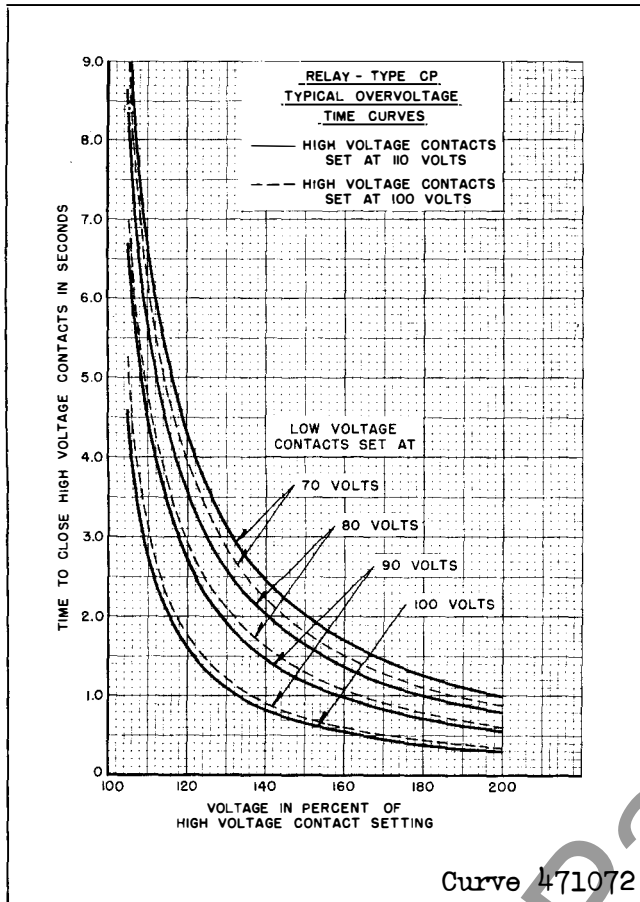

Fig. 6. Typical Overvoltage Time Curves for the Type CP Relay.
There are two independent relay adjustments. These are the high and low voltage contact settings as described under "Characteristics". These settings determine the balanced three phase line-to-line voltage at which the relay contacts trip. The relay timing is not an independent adjustment, since it is fixed by the contact settings chosen. Typical time curves for various contact settings are given in Figs. 6 and 7.
3. **Time Curve** — The time curve can be checked by the use of the circuits of Figs. 8 and 9. The operating time should equal those of the curves of Figs. 6 and 7 plus or minus 5%.